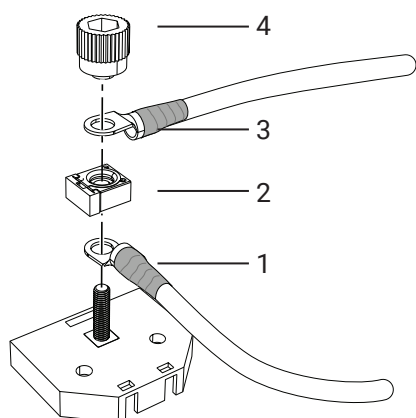
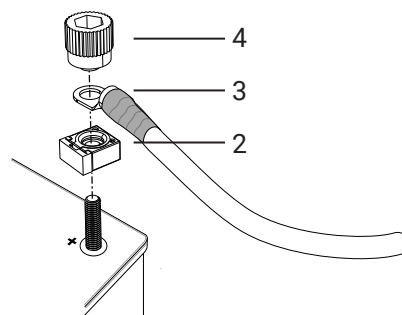

Figure 40. Connection to the fuse box
Figure 41. Connection to the battery's positive terminal
2. If applicable, ensure that the cab switch (CS) is in the "Off" position.
3. When using a fuse box, connect the cable (1) to the battery's positive terminal and to the fuse box and place the fuse (2) above, see Figure 40.
4. When connecting directly to the positive battery terminal, place the fuse (2) on the positive terminal, see Figure 40.
5. Connect the main power cable (3) to the fuse box / positive terminal, see Figure 40 - Figure 41.
6. Screw tight the cable connections and fuse with the knob (4). Install the cables at 90° or 180° from each other. Install the fuse at right angles to the cables; see Figure 40 - Figure 41.